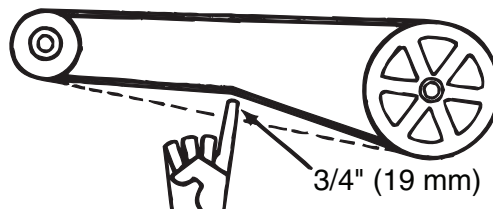

Figure 30. Checking Belt Tension
- Proper belt tension is important to the long life of the belt and motor. A loose belt will cause wear and slippage. Too much tension will cause excessive motor and blower bearing wear. Check belt tension as shown in Figure 30.
- If the belt cannot be depressed 3/4 inches (19 mm), as shown in Figure 30, adjust the belt tension as follows: